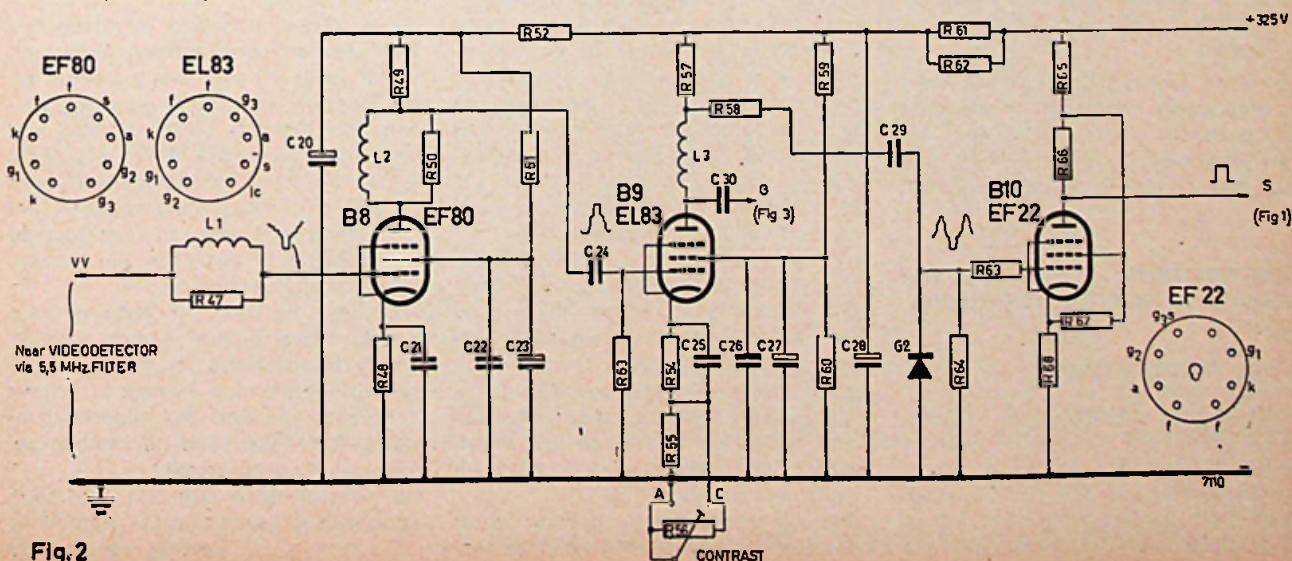

Fig. 2
B. DE SYNCHRONISATIE-SCHIEDER B10 (fig. 2)